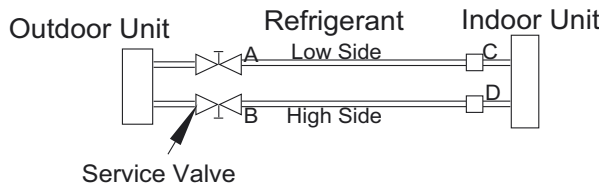

Fig. 12 – Service Valve
1. Completely tighten all flare nuts and connect manifold gage charge hose to a charge port of the low side service valve. (See Fig. 12.)